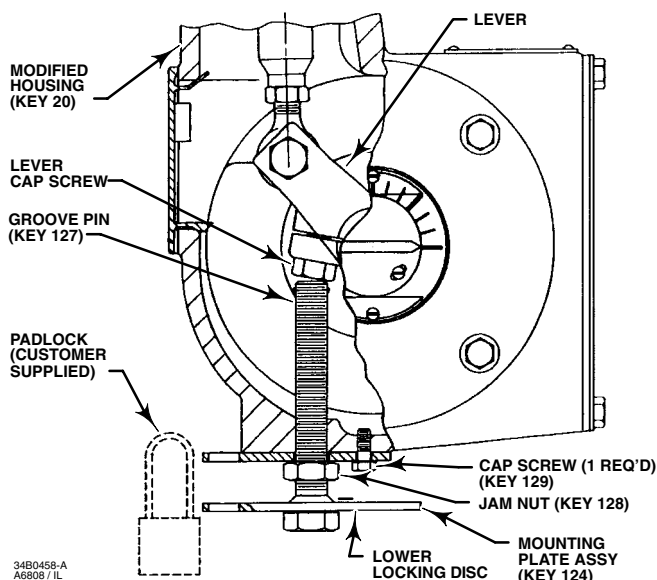

Figure 6. Actuator Locking Mechanism
Refer to figure 6 when installing, operating, and locking the mechanism. Key numbers are shown in figure 6 unless otherwise noted.
3. Attach the mounting plate (key 123) to the modified housing (key 20) as shown in figure 6.
4. Make sure the jam nut (key 128) is threaded onto the threaded bolt before threading it into the housing.
5. After the bolt is threaded into the housing, install the groove pin (key 127) into the end of the bolt. (Note: The groove pin will prevent the threaded bolt from being totally unthreaded from the actuator housing.)
9. Screw the threaded bolt into the housing until it contacts the head on the lever cap screw (see figure 6).
10. Insert the padlock (customer supplied) to connect the mounting plate (key 123) with the lower locking disc on the mounting plate assembly (key 124). You might have to back off the lower locking disc a slight amount to line up the holes for the padlock.
2. Make sure the jam nut (key 128) is loose. Screw the threaded bolt into the housing until it contacts the head on the lever cap screw (see figure 6).
3. Rotate the threaded bolt until one of the holes in the lower locking disc (which is welded to the bolt) is in line with the hole in the mounting plate (key 123). Tighten the jam nut against the mounting plate.